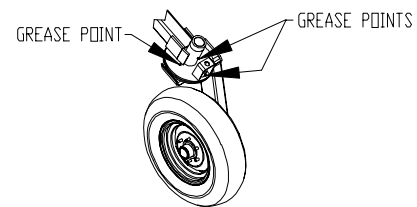

Figure 2
2. Inner rotor bearings (2), located on the center plate of the shredder.
3. Standard PTO CV shaft has (3) U-joints and (2) additional fittings located under the bell housing (section 4, pages 4-54 thru 4-62).
4. Rear and gage wheel pivot points as shown in figure 2.